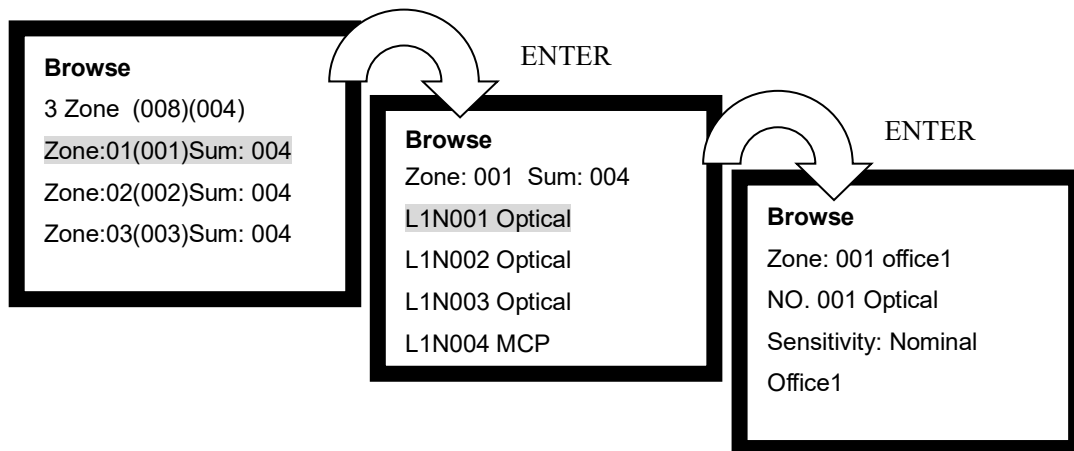

Fig. 6-5
- ✧ Entering No. 2 will enter the screen for browsing loop devices by zone, as in Fig. 6-5.